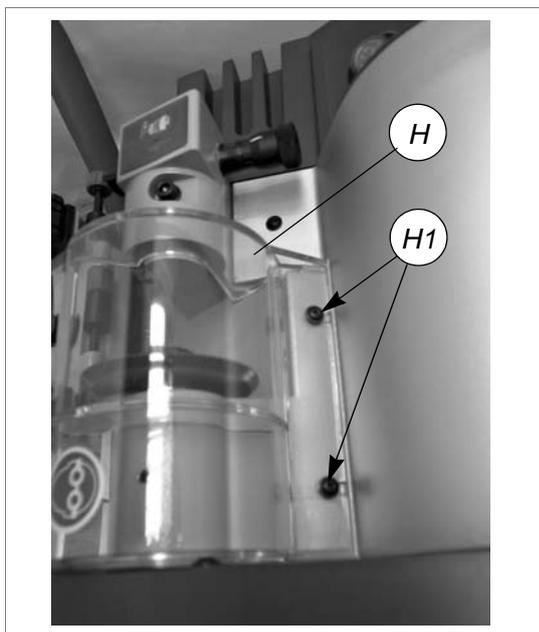

Fig. 24
- 2) Remove the cutter locking screw (H1) and remove the cutter protective shield (H) (fig.24).